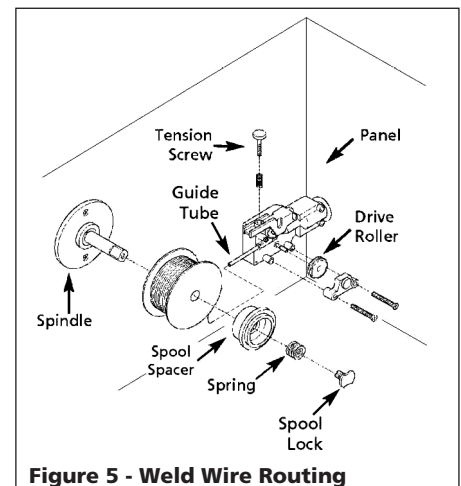

Figure 5 - Weld Wire Routing
- a. Diameter of welding wire matches groove in drive roller on wire feed mechanism (See Fig. 5). The drive roller is marked with metric sizes: .6mm = .024", .8 - .9mm = .030 - .035"